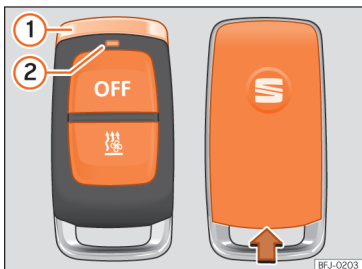

Fig. 95 Independent heating: radiofrequency remote control key
When the buttons are pressed, the LED of remote control **>>> Fig. 95 ②** gives the user a range of information:
- Secure the remote control with the chrome pin **>>> Fig. 95 ①** vertically facing upwards.
- Insert a suitable tool, e.g. a screwdriver, into the indentation in the remote control housing, in the direction of the arrow »» Fig. 95.
- Slide the cover in the direction opposite to the arrow until it clicks into place »» Fig. 95.